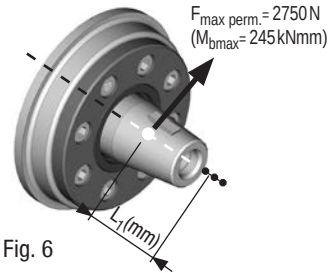

Fig. 6
- The force applied at the force engagement force by the belt tension (see Fig. 6) must not exceed $F_{\text{max perm.}} = 2750 \text{ N}$.
- If the force engagement point shifts forwards (see Fig. 6, small point), the force $F_{\text{max perm.}}$ reduces as per the following formula: